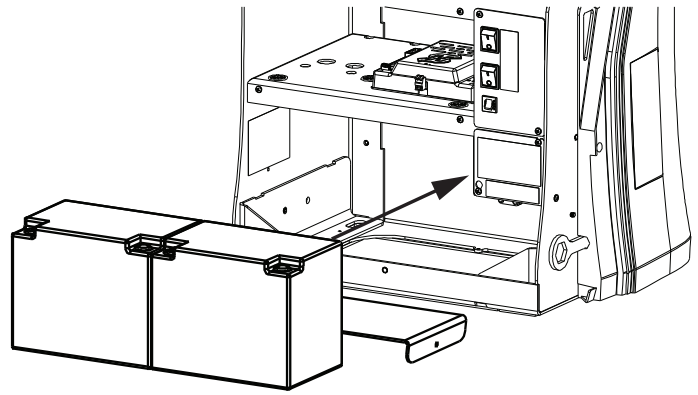

Figure 40. Extended Battery Kit
6. Install the extended battery tray at the back of the conduit cut out. (Figure 40)